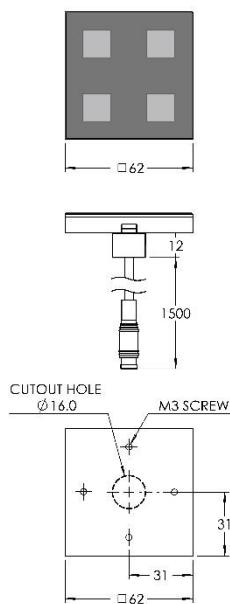

Fig.1 Touch Panel
1. For Touch Panel (Fig. 1) : Drill a $\varnothing 16$ mm hole for cable passage and seal edges (if needed), mount the Touch Panel using 4xM3 screws. Make sure the Touch Panel in correct direction by removing the front cover and rotate until the label aligned. Do not put on the front cover until you complete the switch function setup in step 3.